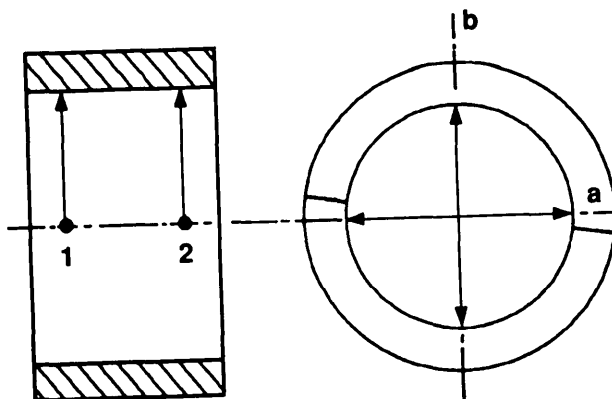

Figure 6-14. Checking Pre-loading of Engine Bearing Bores.
- (1) position bearing caps, making sure that their identification numbers match with those stamped in crankcase. Torque down bolts in accordance with appendix G.
- (2) Using inside micrometer, measure each main bearing base at points 1 and 2 in plan "a", then in the same manner in plane "b" offset by 90 degrees (see figure 6-14), in order to determine any contraction, out-of-roundness or conicity. See table 6-1 for wear limits.
- (3) Install new bearings.
- (4) Position bearing cap, then preload and torque according to instructions given in Table 6-1.
- (5) Using inside micrometer, measure each bearing bore and compare measurements to table 6-1.